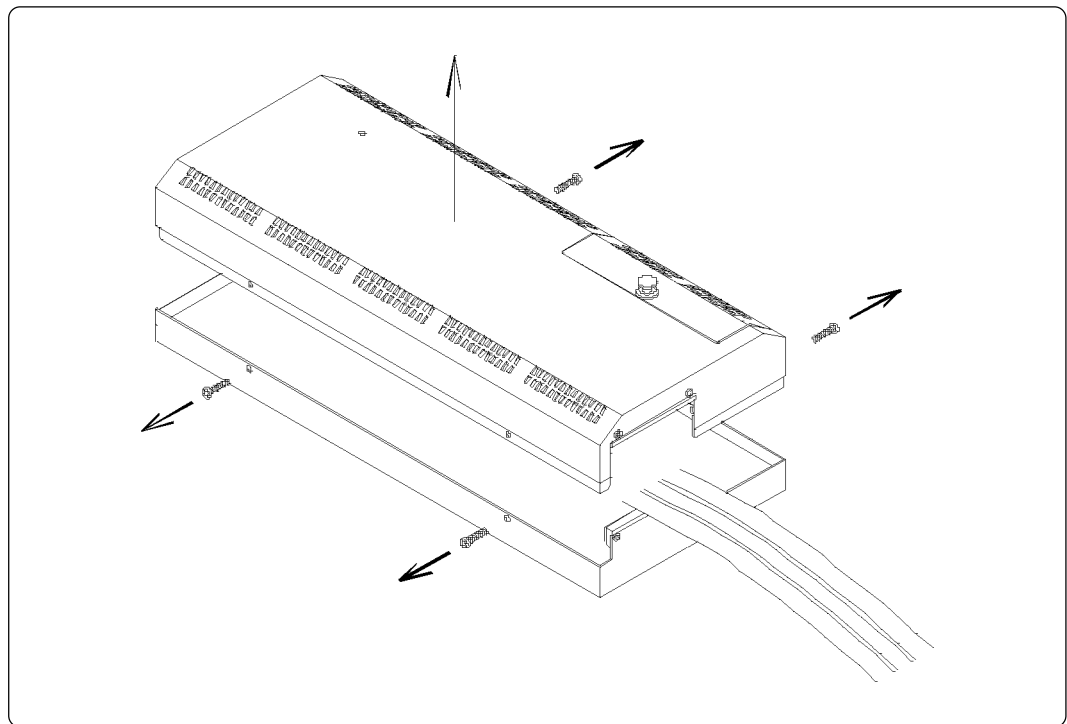

Figure 3.1 Removing the upper cover
- (1) Remove the four screws of both sides of this product and lift off the upper cover. (see Figure 3.1)
- (2) Set the switches.
- (3) Replace the upper cover and secure the four screws.